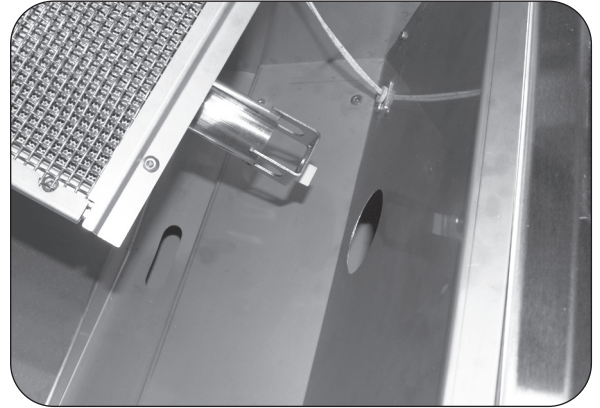
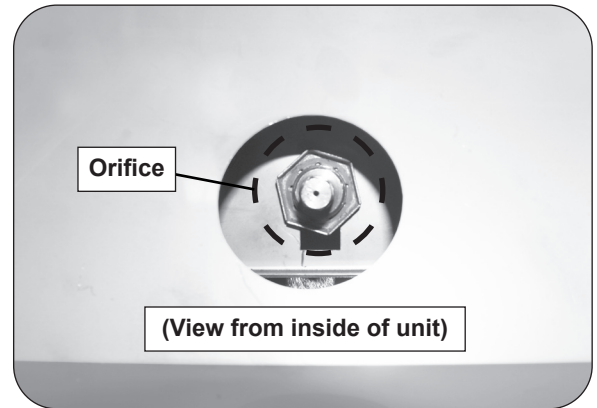

Fig. 40-1 Remove burner
Fig. 40-2 Orifice location
2. Carefully lift the burner upward, allowing the tabs to clear the slots in the rear burner rest. Then, slowly pull the burner tube away from the orifice located inside the circular opening in the front firewall of the unit (see Fig. 40-1 and Fig. 40-2).